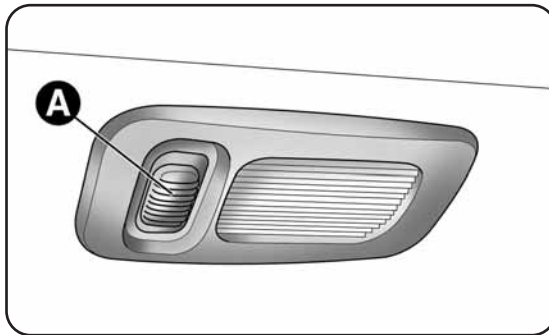

fig. 38
**COURTESY LIGHTS (where provided) fig. 38**